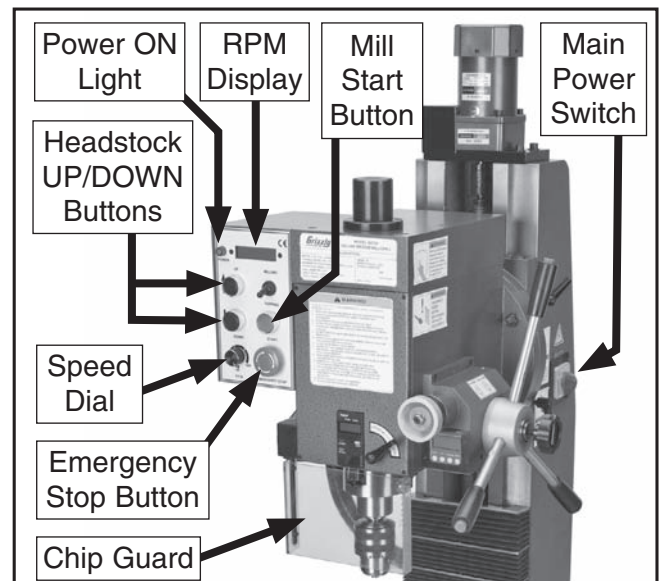

Figure 8. Machine controls.
1. Push the EMERGENCY STOP button in, and turn the main power switch to **OFF** (see **Figure 8**).
5. Rotate the spindle speed dial (see **Figure 8**) counterclockwise to the slowest setting.
6. Close the chip guard (see **Figure 8**) and connect the machine to power.
Note: *The power ON light shown in **Figure 8** illuminates to indicate that all machine controls are now LIVE and ready for use.*